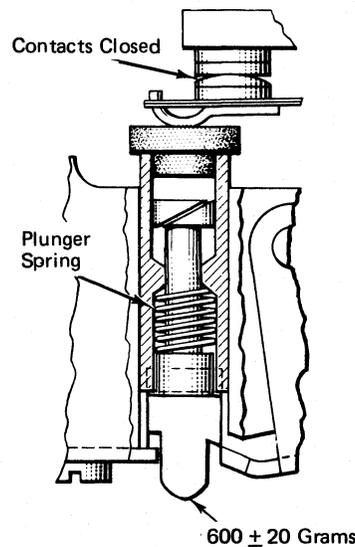

Figure 3-18. Latching Plunger Circuit Breaker—Adjustment 5
5. A pressure of 600 grams, \pm 20 grams, on the contact plunger should be required to compress the plunger spring to the latching point (Figure 3-18). These values have been tested and found to provide a good operating condition.